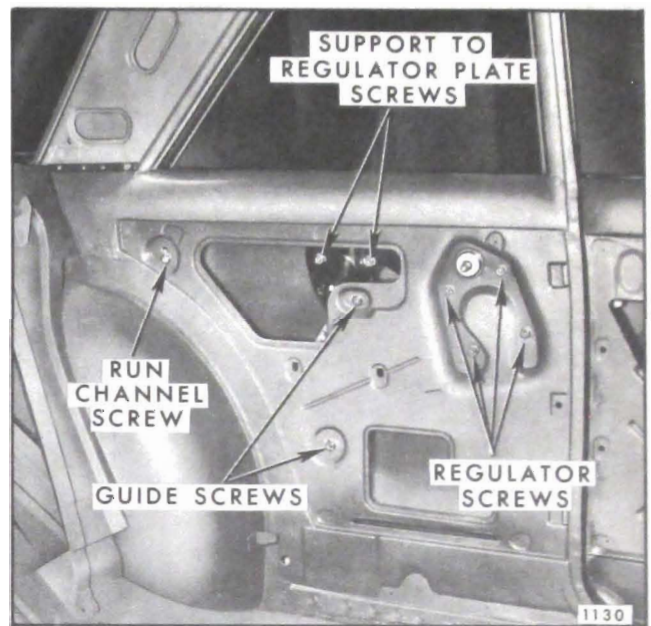

Fig. 7-18—Rear Quarter Hardware Attachment -
2. On "A & B" styles, disengage window assembly from regulator lift arm by removing slotted retainer (see Fig. 7-17). On "X" styles remove support to regulator plate screws (Fig. 7-18).